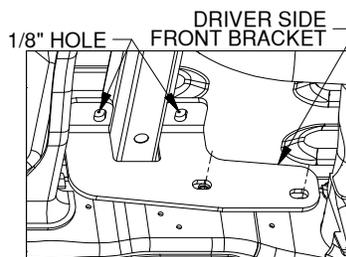
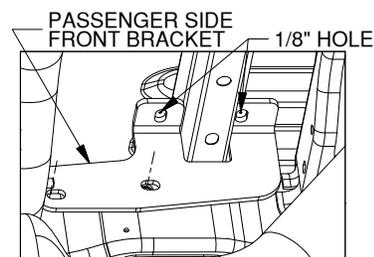

FIGURE A3: View looking up at the inside of driver side frame.
FIGURE A4: View looking up at the inside of passenger side frame.
2. **Check hole locations.** Locate the driver side front bracket. Position and hold the bracket flat against the inside of the frame where it will be installed see Figure A3. Check that the 1/8" pilot holes are centered within the slots in the frame brackets. If the 1/8" drilled holes are not centered within the slots, re-drill the 1/8" holes until the brackets and the drilled holes are aligned. Repeat the process for the passenger side using the passenger side rear bracket, see Figures A4.